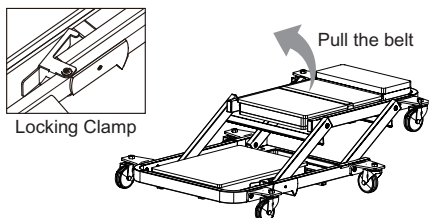

Figure 1 - Seat configuration
1. Locate and unlock spring loaded Locking Clamp by pressing the clamp. Then pull the belt on the middle cushion to rotate the Head Frame and Middle Frame upward as shown in Fig. 1 until the Locking Clamp can engage the frame in the Creeper Seat locking position (ensure the Lock Clamp is fully engaged). This is the seat configuration(Fig 2).